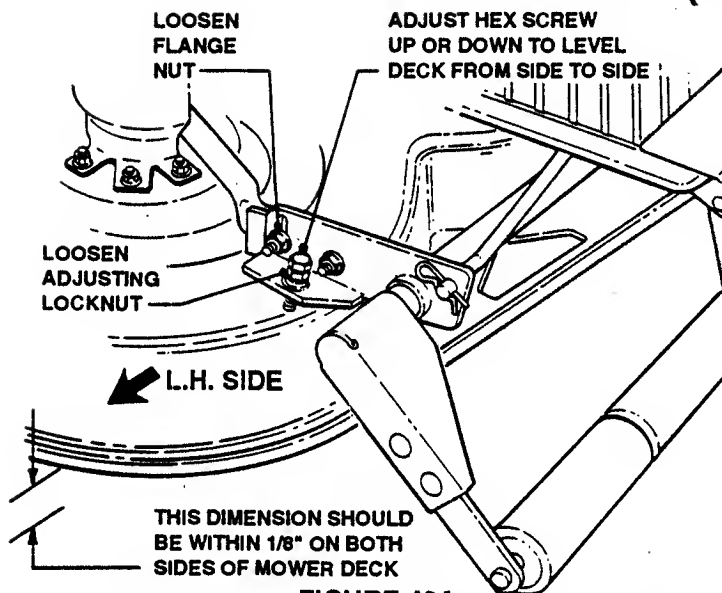

FIGURE 43A
- A. Making sure that mower deck is in its lowest position, loosen the flange nut shown in Figure 43A.